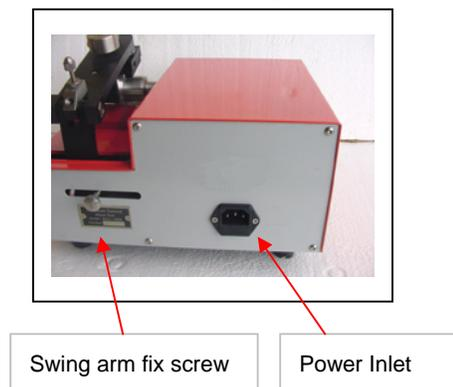

Fig. 1
- 5.2.2 Please choose suitable position for working arm, and tighten the screw before cutting, otherwise micrometer can not work (as Fig. 1)